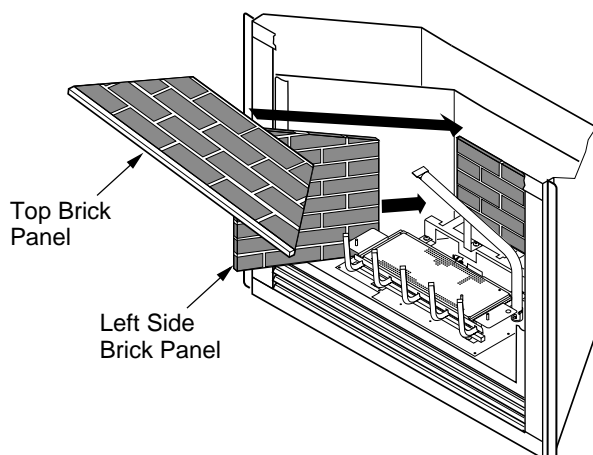

Figure 44 - Installing Left Side and Top Brick Panels
6. Install top brick panel by resting on the top of the rear panel. Hold the top brick panel in place and install left side brick panel by sliding it between the grate and the side of the firebox, securing top panel (see Figure 44).